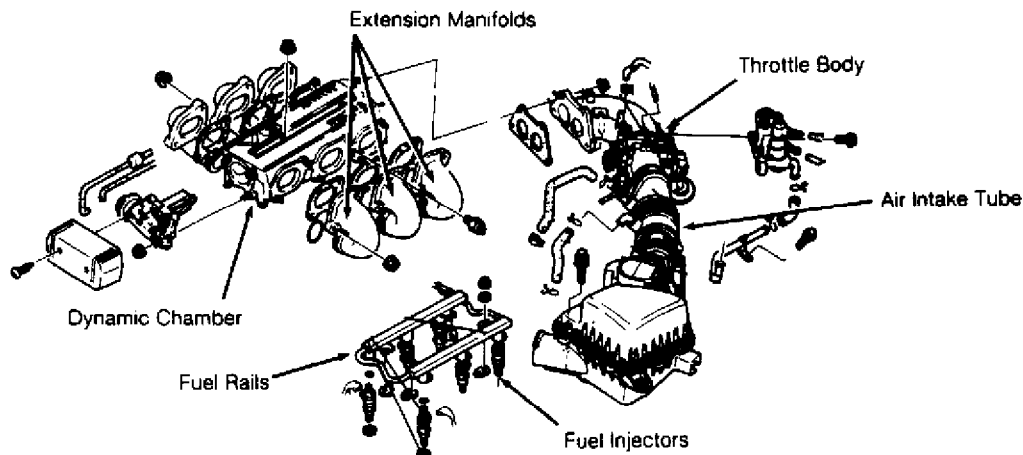

Fig. 24: View Of Upper Intake Manifold Components & Fuel Rail (MPV 3.0L)
1) Release fuel system pressure. See FUEL SYSTEM PRESSURE RELEASE. Remove air intake tube. See Fig. 24. Remove throttle body. See THROTTLE BODY.